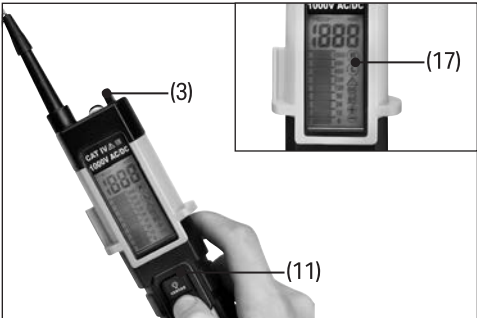

Fig. 6
7.2.3 Phase rotation (3 Phase only) (Fig. 6)